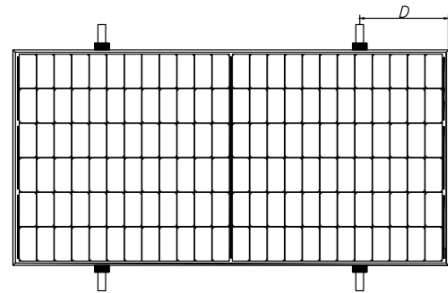
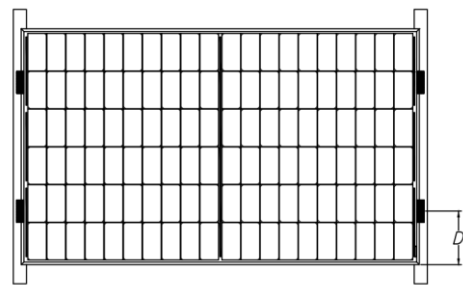
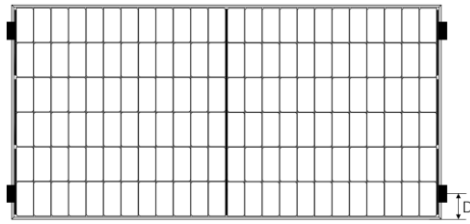

Fig. 11 Rails vertical to the long-side frame
Fig. 12 Rails overlapping the short-side frame
Fig. 13 Four clamp mounting on short side of frame
Photovoltaic modules can be installed across the support frame (Fig. 11) or parallel to the frame of the photovoltaic module (Fig. 12). PV modules can also be installed with four fulcrums (Fig 13). When using clamps to install, each module must be secured with a minimum of 4 clamps.
- ⑧ For the mounting shown in Figure 12, the overlap between the C surface of the assembly and the rail should be  $\geq 25\text{mm}$ . Astronergy's limited warranty will be void if improper clamps or improper installation is used